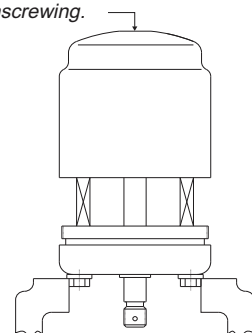

Figure 2
1. Insert four bolts into bonnet and clamp into vise as illustrated in Figure 2
To prevent injury, apply constant hand pressure and unscrew completely. Spring force will push the cylinder up when threads disengage. See Figure 2.